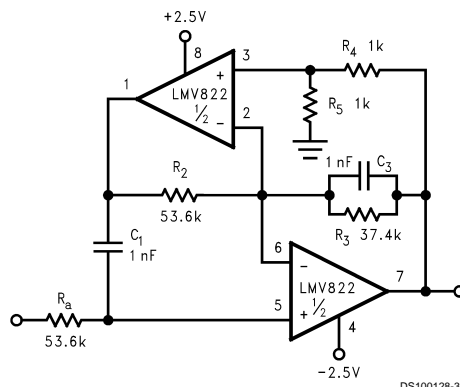
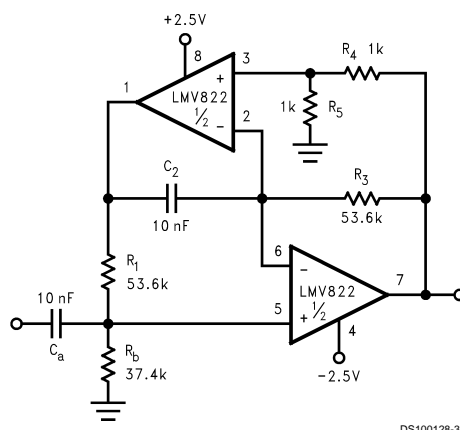
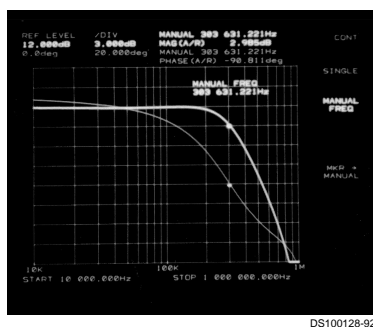

FIGURE 10. Dual Amplifier, 3 kHz Low-Pass Active Filter with a Butterworth Response and a Pass Band Gain of Times Two
FIGURE 11. Dual Amplifier, 300 Hz High-Pass Active Filter with a Butterworth Response and a Pass Band Gain of Times Two
FIGURE 12. 300 kHz, Low-Pass Filter, Butterworth Response as Measured by the HP3577A Network Analyzer
The LMV822/24 bring economy and performance to DAAFs. The low-pass and the high-pass filters of Figure 10 and Figure 11 (respectively), offer one key feature: excellent sensitivity performance. Good sensitivity is when deviations in component values cause relatively small deviations in a filter's parameter such as cutoff frequency (F_c). Single amplifier active filters like the Sallen-Key provide relatively poor sensitivity performance that sometimes cause problems for high production runs; their parameters are much more likely to deviate out of specification than a DAAF would. The DAAFs of Figure 10 and Figure 11 are well suited for high volume production.
Single Amplifier versions require a large open-loop to closed-loop gain ratio - approximately 50 to 1, at the Fc of the filter response. *Figure 12* shows an impressive photograph of a network analyzer measurement (hp3577A). The measurement was taken from a 300kHz version of *Figure 10*. At 300 kHz, the open-loop to closed-loop gain ratio @ Fc is about 5 to 1. This is 10 times lower than the 50 to 1 "rule of thumb" for Single Amplifier Active Filters.
In addition to performance, DAAFs are relatively easy to design and implement. The design equations for the low-pass and high-pass DAAFs are shown below. The first two equations calculate the F_c and the circuit Quality Factor (Q) for the LPF (Figure 10). The second two equations calculate the F_c and Q for the HPF (Figure 11).
To simplify the design process, certain components are set equal to each other. Refer to *Figure 10* and *Figure 11*. These equal component values help to simplify the design equations as follows:
To illustrate the design process/implementation, a 3 kHz, Butterworth response, low-pass filter DAAF (*Figure 10*) is designed as follows: